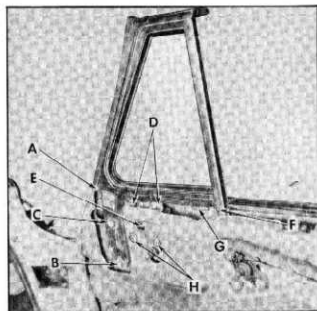

Fig. 4—Convertible Ventilator Assembly
2. Carefully cut the ventilator and door weatherstrip indicated at "A" (fig. 4).
1. Loosen nut "B" and bolt "C" (fig. 4).